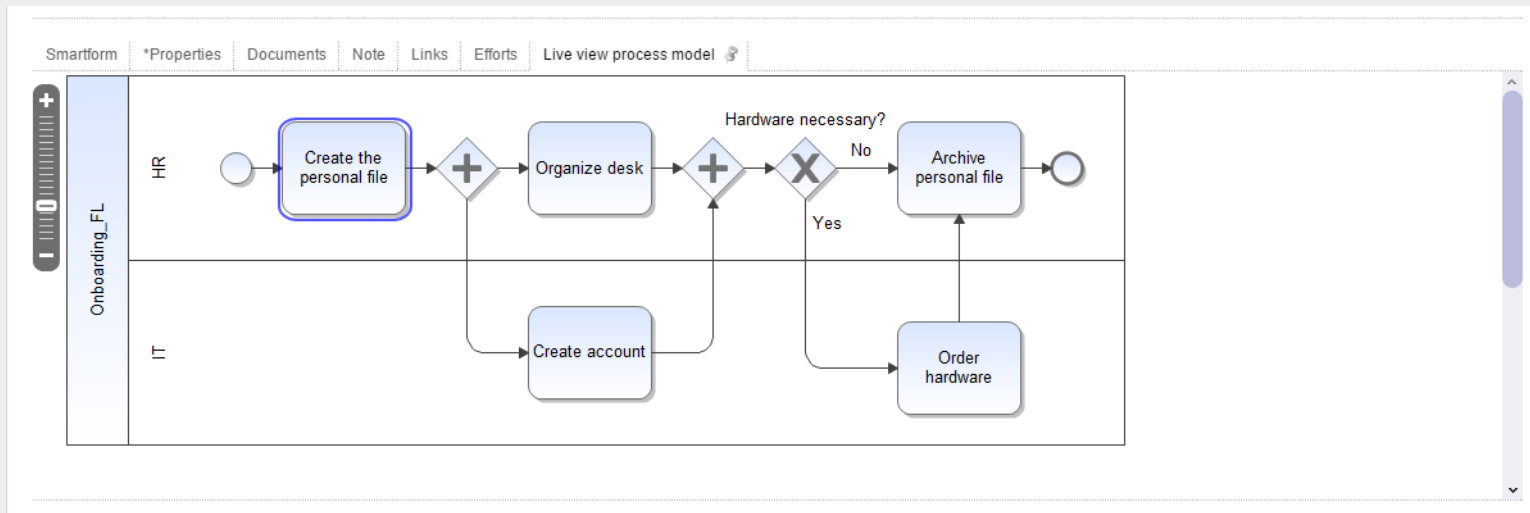

Figure 4. Global Corp. job application process model map
- The Live view process model tab provides real-time context of this task's place in the currently-running process, as shown in Figure 4 on the next page.